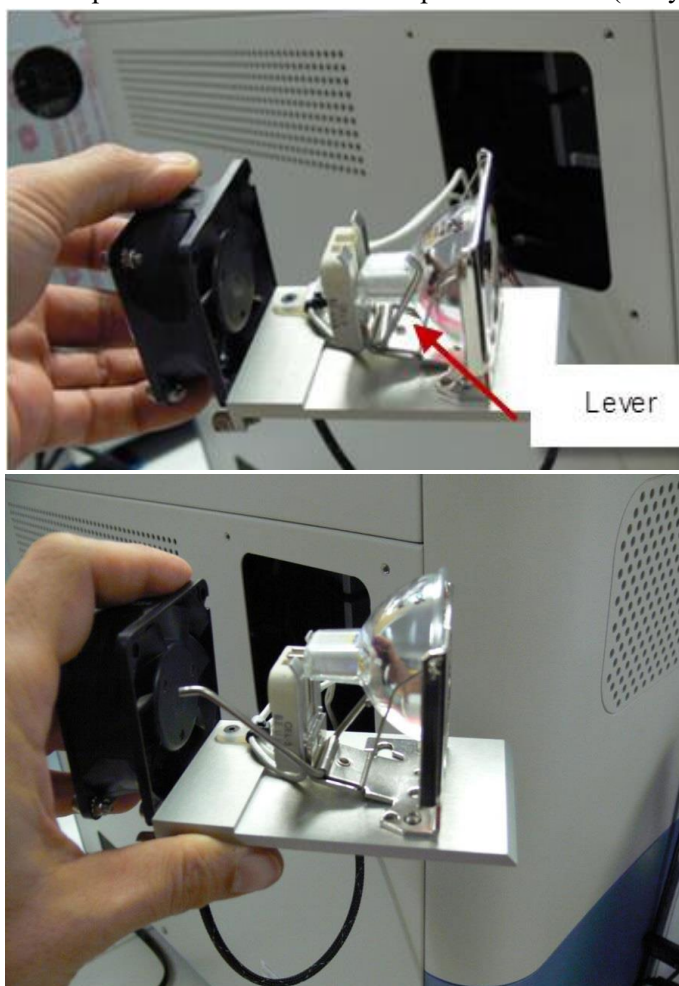

Figure 105. Ejecting the lamp assembly.
- e. Eject the lamp by pulling back on the wire lever (Figure 105). Remove the old lamp and discard. Replace with a new lamp supplied by Takara Bio, being careful to not touch the internal parts of the lamp. The wire lever should be pushed forward (away from the fan) to facilitate installation.